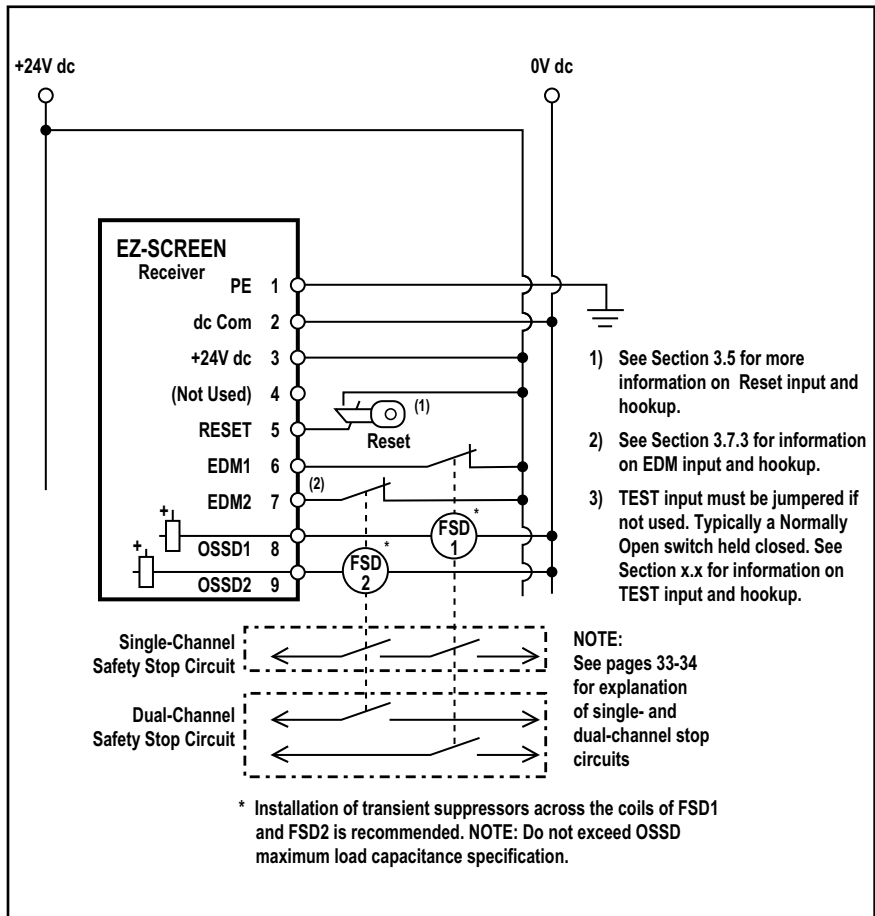

Figure 3-19. EZ-SCREEN receiver generic hookup – FSD (2-channel EDM, key reset)
Final Switching Devices (FSDs) typically accomplish this when the OSSDs go to an OFF state. See Figure 3-19.
The normally open safety outputs from an interface module provide a series connection of redundant contacts that form safety stop circuits for use in either 1-channel or 2-channel control. (See Figure 3-19.)
Each of the two Machine Primary Control Elements (MPCE1 and MPCE2) must be capable of immediately stopping the dangerous machine motion, irrespective of the state of the other. These two channels of machine control need not be identical, but the stop time performance of the machine (Ts, used to calculate the separation distance, see Section 3.3.1) must take into account the slower of the two channels. Some machines offer only one Primary Control Element. For such machines, it is necessary to duplicate the circuit of the single MPCE to add a second. Refer to Figures 3-19 and 3-20 or consult the machine manufacturer for additional information.
External Device Monitoring: It is strongly recommended that one normally closed, forced-guided monitoring contact of each MPCE be connected to EDM inputs (see Figures 3-19 and 3-20). If this is done, proper operation of the MPCEs will be verified. MPCE monitoring contacts is one method of maintaining control reliability.
- **Two-channel monitoring** is a separate connection of closed monitor contacts that are forced-guided (captive contact) from each device controlled by the EZ-SCREEN Point. The monitoring contacts should always change state (both open or both closed) within 200 milliseconds of the corresponding OSSD state change (turning on or off) or a lockout will occur (see Diagnostics, Section 5.1). Refer to Figures 3-19 or 3-20 for 2-channel EDM hookup. Connect the monitor contacts as shown between +24V dc and EDM1 (terminal 6) and between +24V dc and EDM2 (terminal 7). Set the configuration DIP switches to 2, per Section 4.1.
A common method of satisfying these requirements is the use of 2-channel control with monitoring, where a normally closed, forced-guided contact of each MPCE is wired as described in the section at right and as shown in Figures 3-19, 3-20 and 3-21.